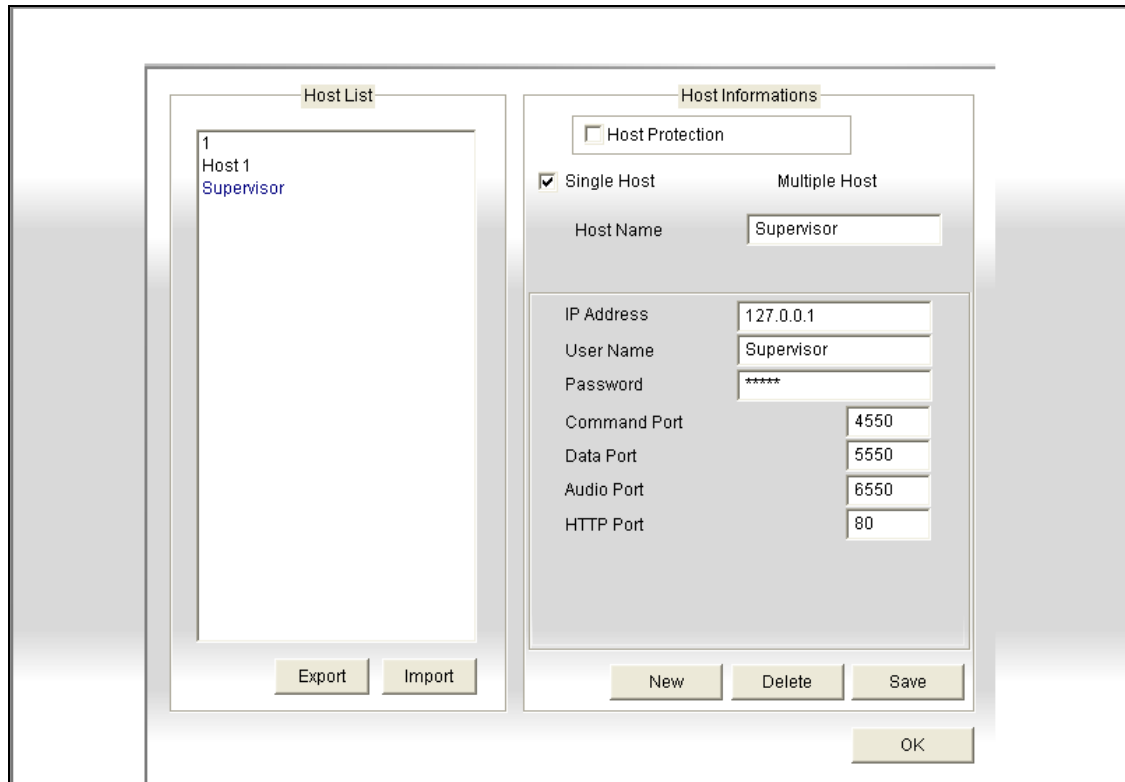

Figure 6-32 The Edit Host Window
1. Click the **Edit Host** button (No. 8, Figure 6-26) to display the Edit Host window (Figure 6-32), and then click the **New** button to create a new host.